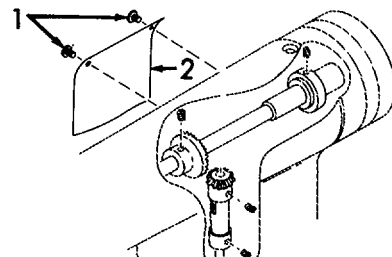

Figure 6-106. Side Cover, Installation.
- (5) Adjust vertical shaft collars (6 and 8) so that there is no up and down end play on either lower or upper vertical shaft gears (4 and 10), and that a good mesh is made.
- (6) Tighten two setscrews (5 and 7) when positioned properly.
- (7) Refer to Figure 6-106. Position side cover (1) into place.
- (8) Install two screws (1).